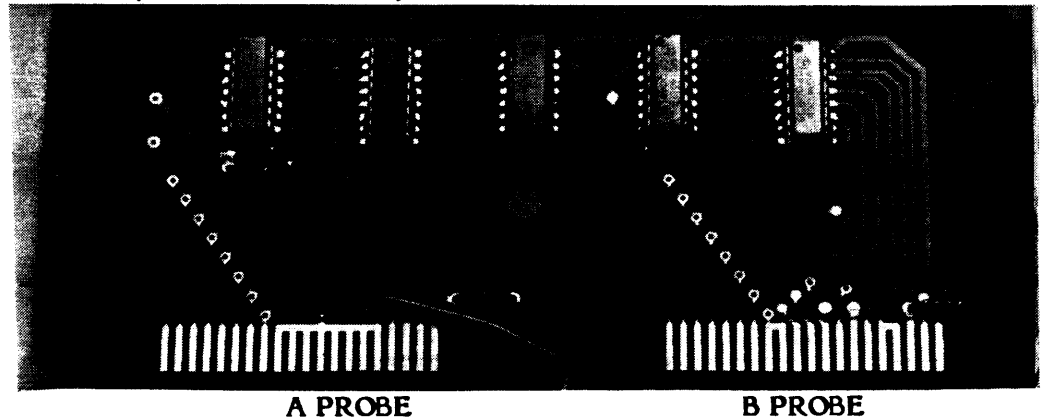

Figure 6-2. Test card layout.
The Logic Analyzer Test Card consists of two 8-bit CMOS counters (A and B), a clock, and simple decoding logic. See Figure 6-2. Each CMOS counter normally counts from (00)HEX to (FF)HEX. When the A counter reaches (40)HEX, the decode logic resets the B counter to (00)HEX.